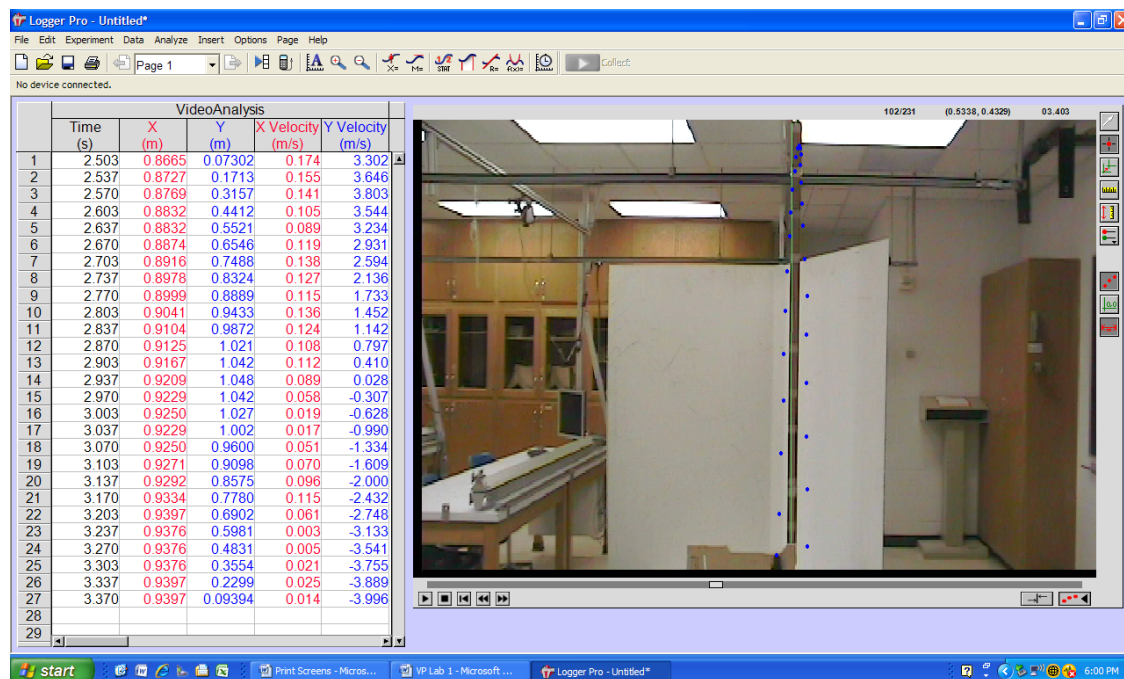

Figure 8
6. Use the *Set Scale* function and select two tick-marks on the meter stick as your distance. Next, use the *Add Point* function and select a point on the marble in every frame such that you have data points for the marble's entire trajectory. Now *Set Origin* and drag the origin of your coordinate axes to the first point you selected, and if necessary, rotate the axes so that your y-axis aligns with the sequence of points. As you rotate your axes, your data in the spreadsheet should recalculate. Your LoggerPro sheet should look similar to Figure 8. Export your data to a text file and save the text file in your section folder. Remember to either save this text file to a USB flash drive or email this text file to yourself when you are finished with the lab.